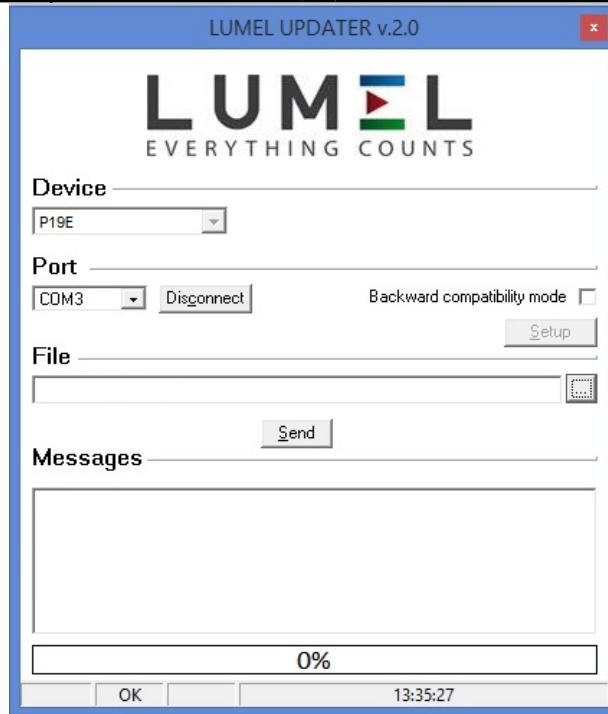

Fig. 22 View of the program to upgrade the firmware.
Then click the **Connect** icon. Then click the link **Upgrade firmware** which will display the window of LUMEL UPDATER (LU) – **Fig. 22**. Click the Connect button. **Messages** information window contains info